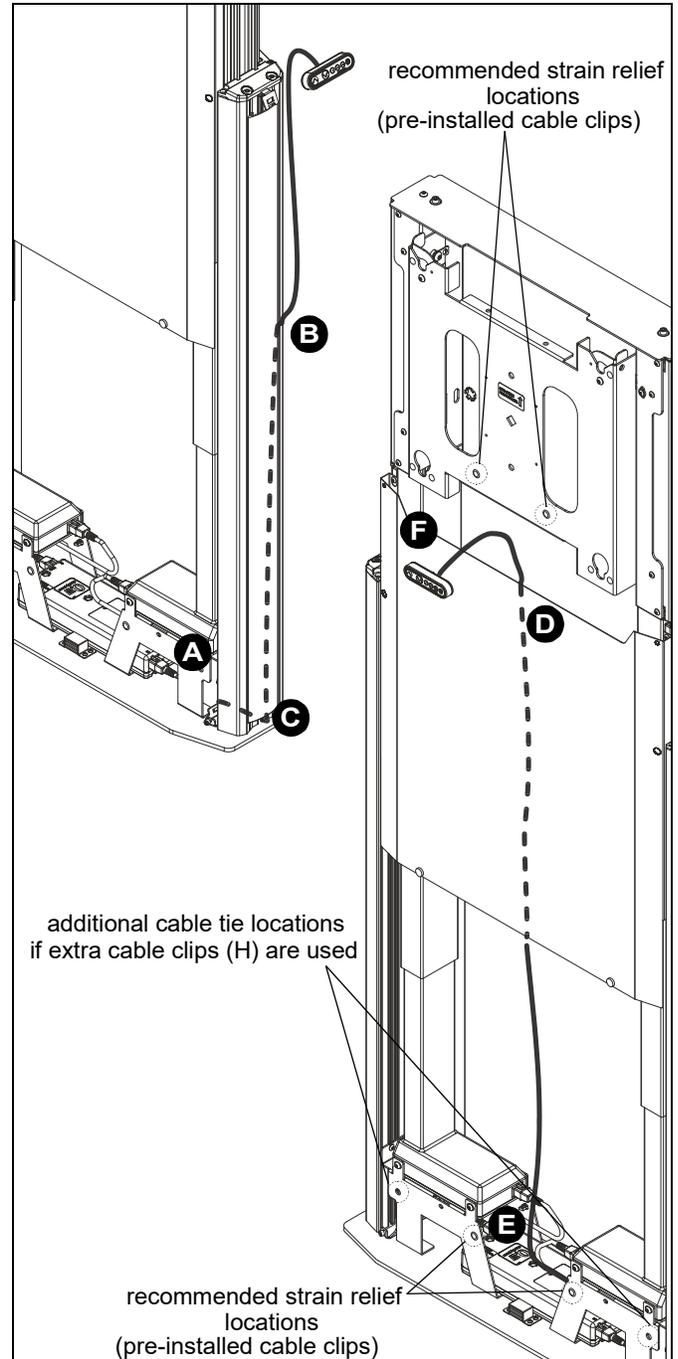

Figure 10
17. (Optional) Relocate control pad to the front center of display if desired following these steps. (See Figure 10)
- F. Use double-sided foam tape (R) to attach control pad to bottom of display in the center.